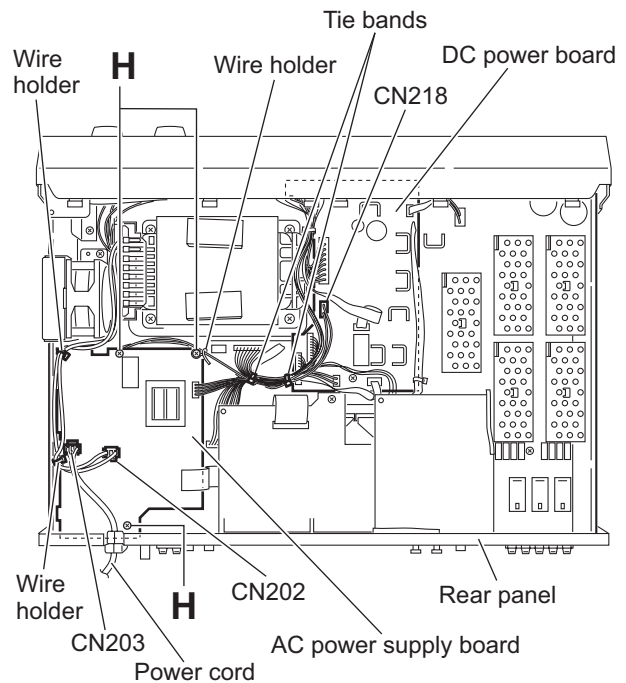

Fig.10
3.1.7 Removing the AC power supply board (See Fig.10)